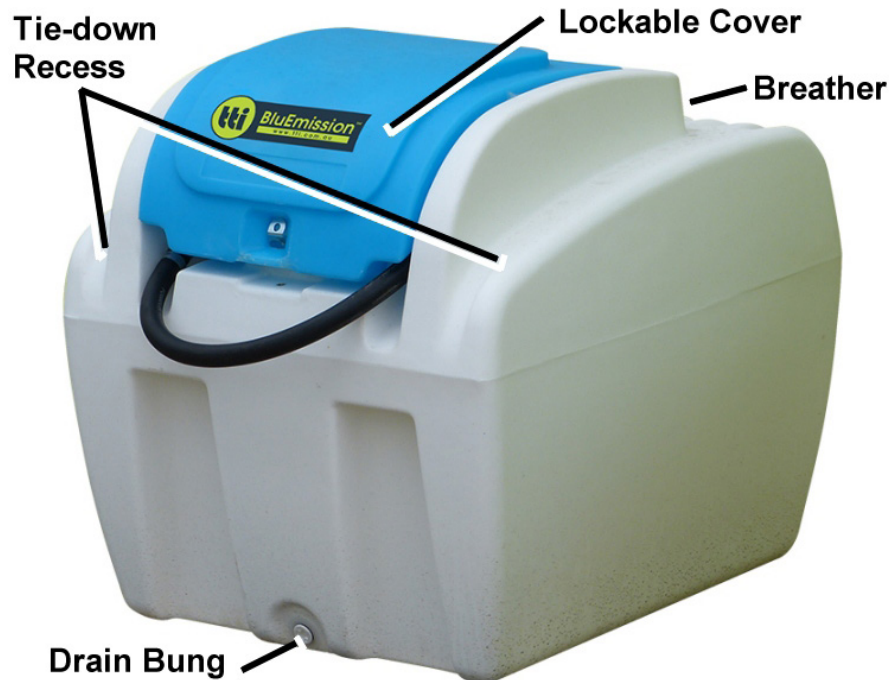

Figure 1 – Component Identification Overview (Mounting Frame not shown)
- Position your BlueMission onto the vehicle and mount securely using tie-down straps located into the tie-down recesses on both sides of the tank, refer to Figure 1. The tie-down straps must be rated to at least the total mass of the unit when filled with AdBlue. A recommended frame design for mounting the BlueMission is available as an option from TTI.